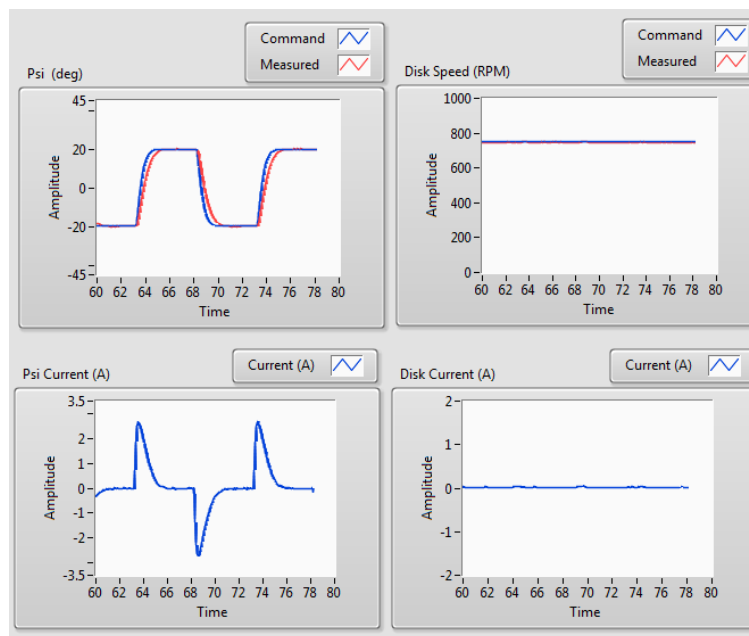

Figure 3.6: Typical response when running control on 3D GYRO system
7. The red gimbal should now be going back and forth between the commanded positions at the frequency specified. Examine the position of the red gimbal in the *Psi* scope. You can also view the commanded motor currents in the *Disk Current* and *Psi Current* scopes. The scopes should be displaying responses similar to Figure 3.6.